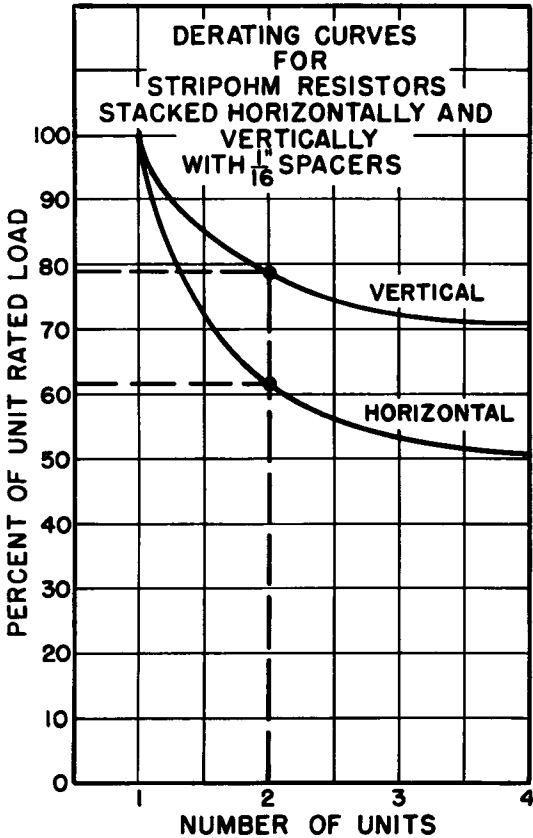

Figure 3-18. Derating Curves for Stripohm Resistors stacked horizontally and vertically
a. *Group Ratings*—Figure 3-18 shows the effect of stacking on the rating of Stripohm resistors. All resistors are equipped with standard spring clip brackets as shown in Figure 3-17b. For example, 55-watt Stripohm resistors, stacked in groups of two with their faces vertical, are rated at 79% of 55, or 43.4 watts. If stacked with their faces horizontal, the rating is 61.5% of 55, or 33.8 watts.